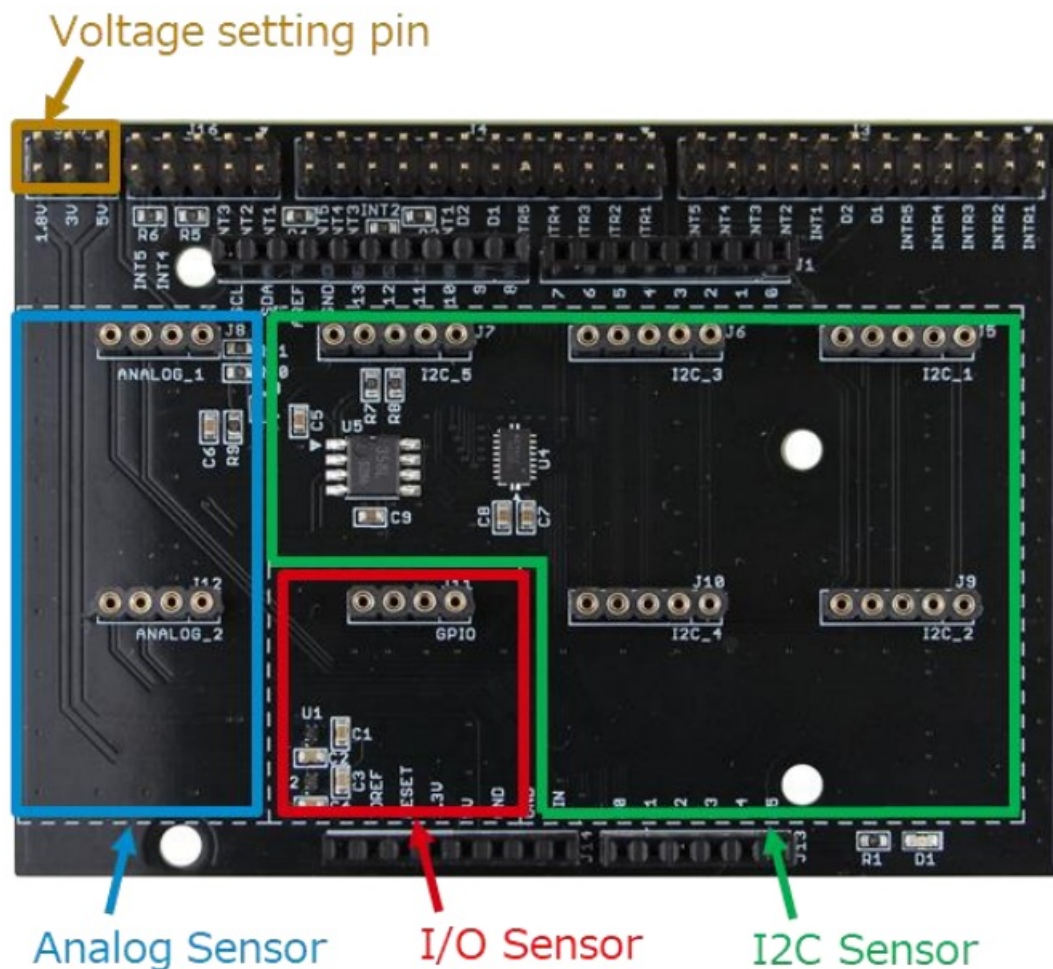

Figure 4. Voltage settings and Connection of the Sensors
2. Check the connection type of ROHM Sensor Board and connect it to the corresponding type on the SensorShield (Figure 4)
3. Set voltage of the SensorShield to the corresponding supply voltage range of each ROHM Sensor Board. (Figure 4)